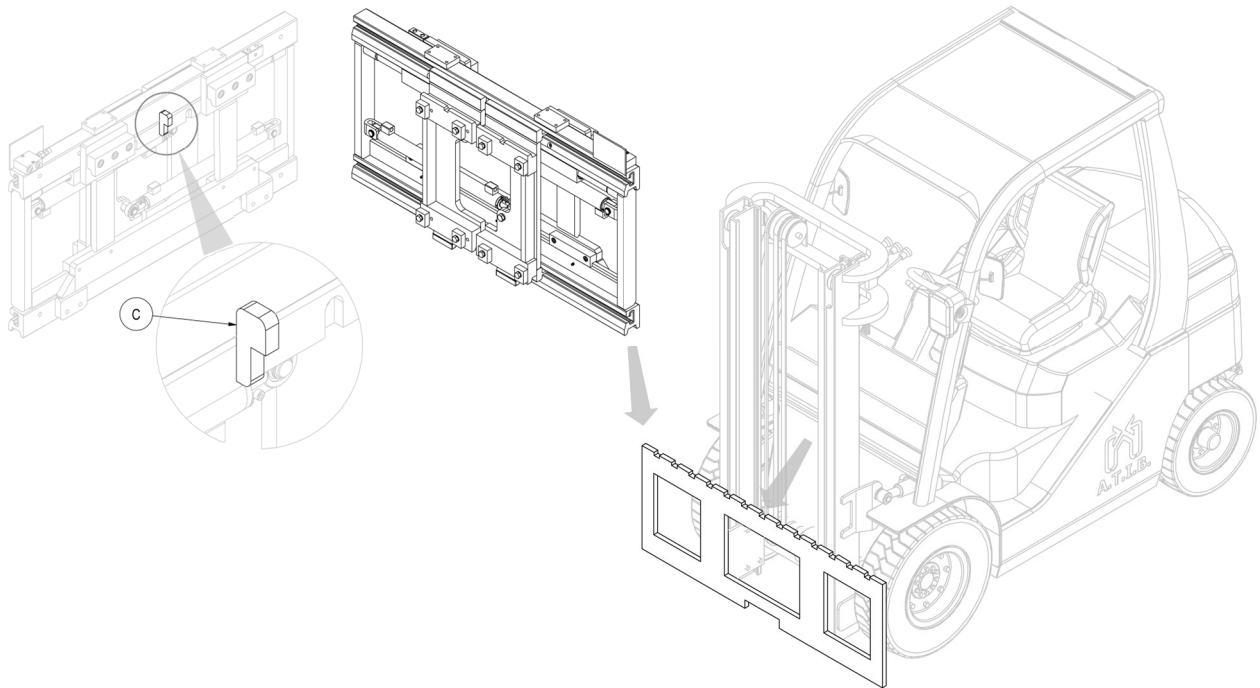

Figure 11
6. With an overhead crane or a hoist of sufficient capacity, place the equipment on the fork carriage plate, taking care to engage the centring pin **C** in its central notch (see *Figure 11*).